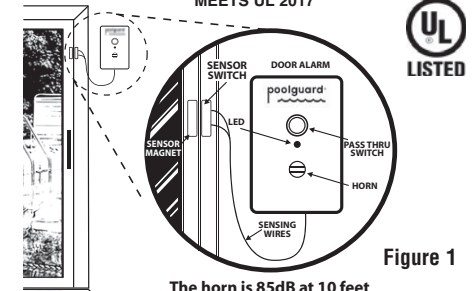

Figure 1
2. INSTALLING POOLGUARD DOOR ALARM (FIGS. 1 & 2) Indoor Use Only
4. OPERATING YOUR DOOR ALARM (FIG. 1)